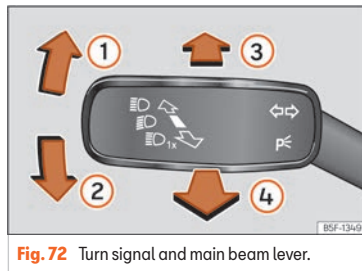

Fig. 72 Turn signal and main beam lever.
- From the base position, press the turn signal and main beam headlights lever forwards >>> Fig. 72 (3).
- **EITHER:** if main beam assist is on, pull the turn signal light and main beam headlights lever back >>> Fig. 72 (4).